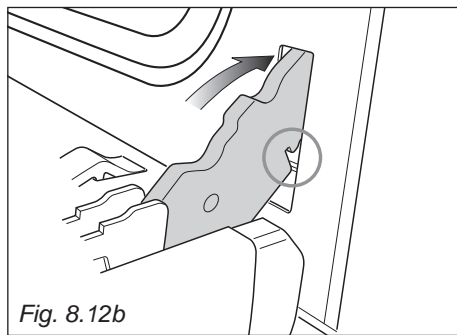

Fig. 8.12b
2. Insert the hinge tongues into the slots, making sure that the groove drops into place as shown in the figure 8.12b.